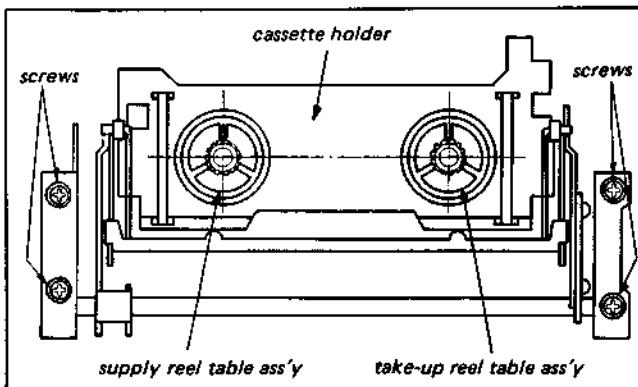

Fig. 3-14. Replacement of cassette-lift assembly
2. Install the cassette-lift assembly so that the reel tables and the reel holes on the cassette holder from concentric circles. (See Fig. 3-14.)